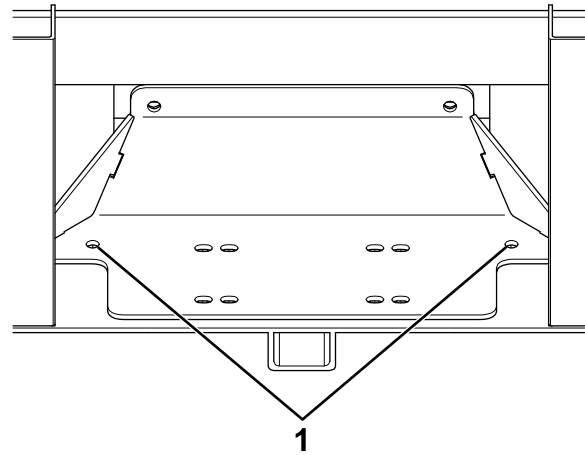

Figure 1
2. Using the winch plate as a template, drill the holes indicated in Figure 1 into the vehicle bumper using a 7/16-inch drill bit.